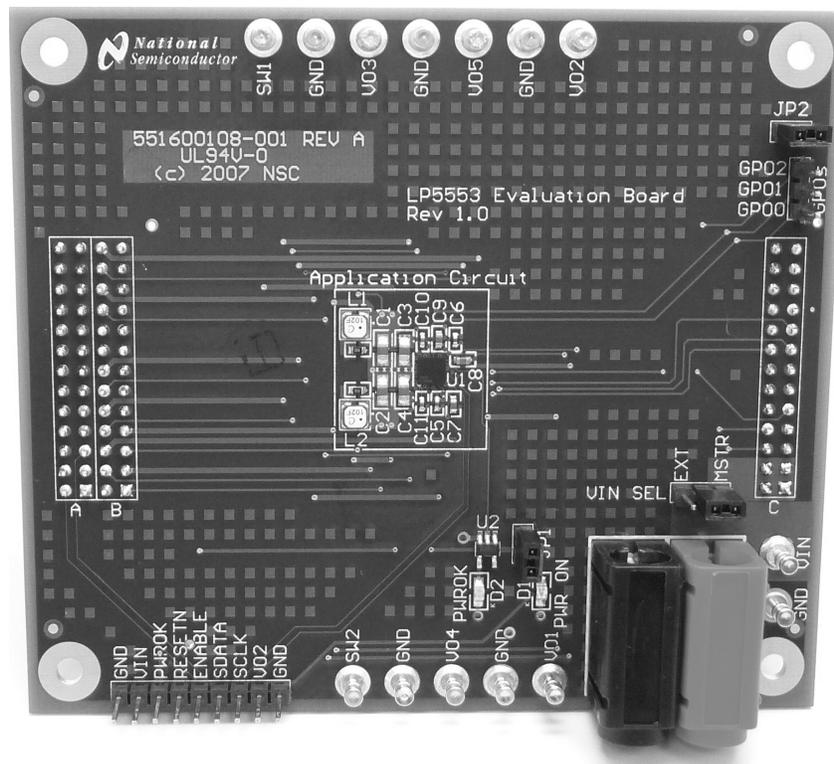

Figure 1. LP5553 Evaluation Board
- LP5553 Evaluation Board (Figure 1)